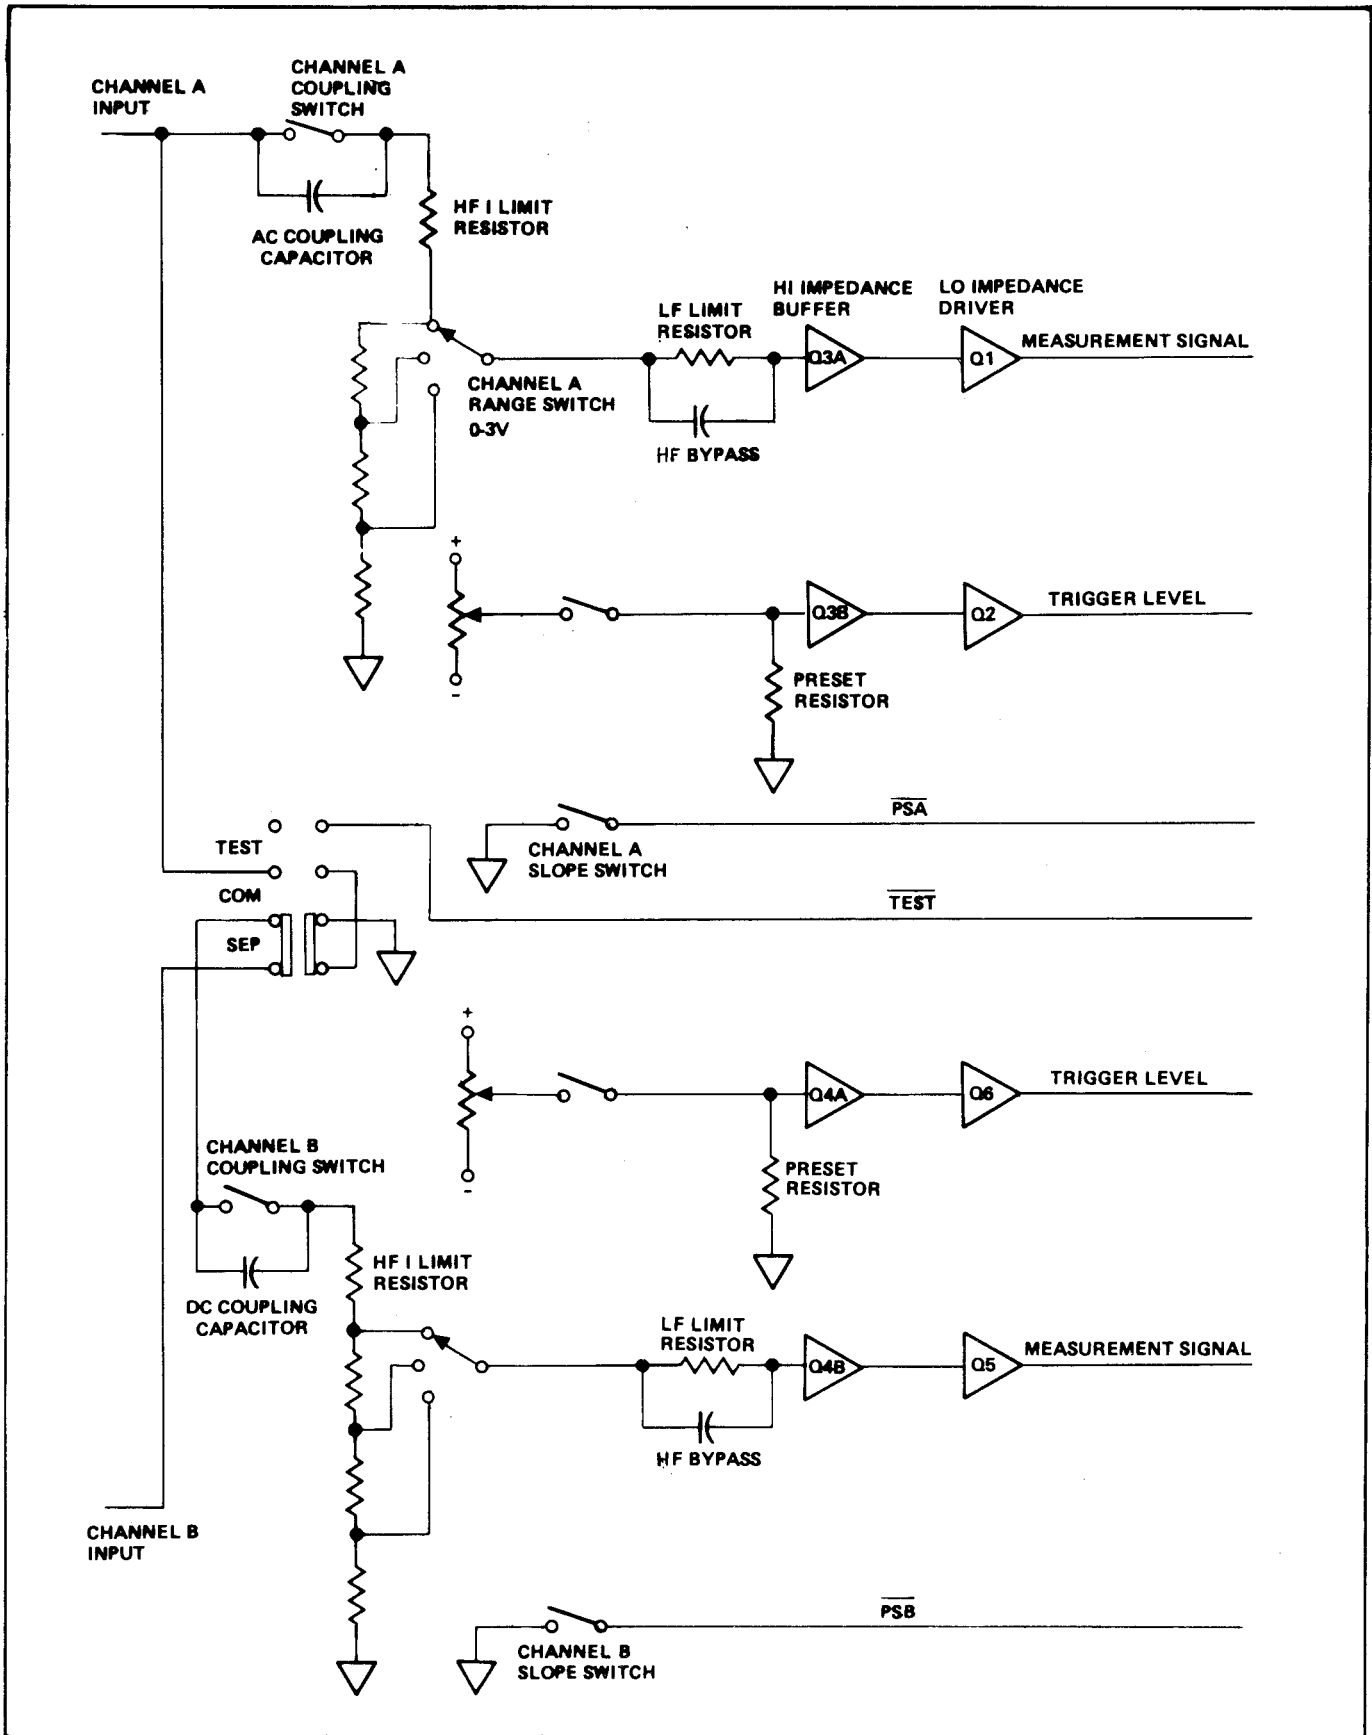

Figure 1.11 - Input Attenuator and Buffer Simplified Diagram
1.4.4.2 A simplified diagram of the input attenuator and buffer is presented in figure 1.11. A review of the simplified diagram and of the schematic in the drawing section of this manual will show that the channel A and B input attenuator and buffer circuits are identical except for the input configuration switch circuitry. The input configuration switch is labeled separate (SEP), common (COM) and test. When the switch is in the SEP position as shown on the simplified diagram, the channel B input connector is connected through the input configuration switch to the channel B coupling switch and capacitor. The channel A input connector is always connected directly to the channel A coupling switch and AC coupling capacitor.